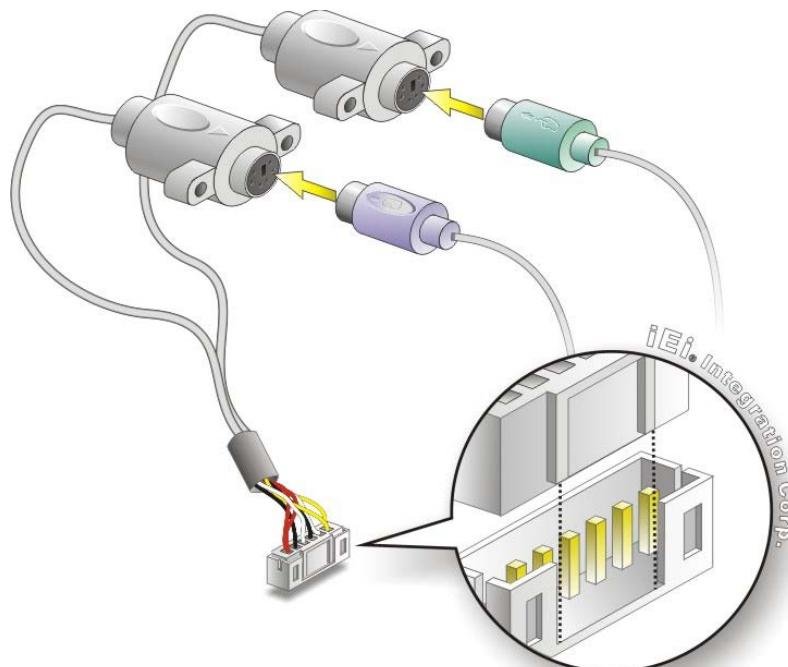

Figure 4-15: Keyboard/mouse Y-cable Connection
**Step 2: Align the connectors.** Correctly align pin 1 on the cable connector with pin 1 on the WAFER-PV-D5252/D4252/N4552 keyboard/mouse connector. See Figure 4-15.
**Step 3: Insert the cable connectors** Once the cable connector is properly aligned with the keyboard/mouse connector on the WAFER-PV-D5252/D4252/N4552, connect the cable connector to the on-board connectors. See Figure 4-15.